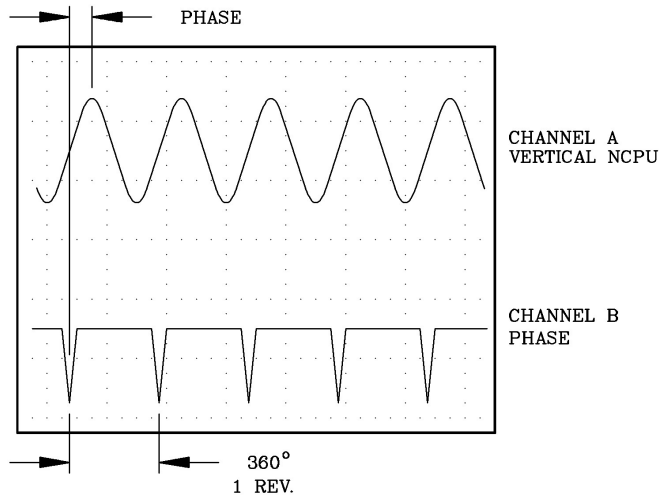

Fig. 3.3
9. Phase may be measured using a single vibration transducer and a phase transducer displayed in time based mode as shown in Figure 3.3.